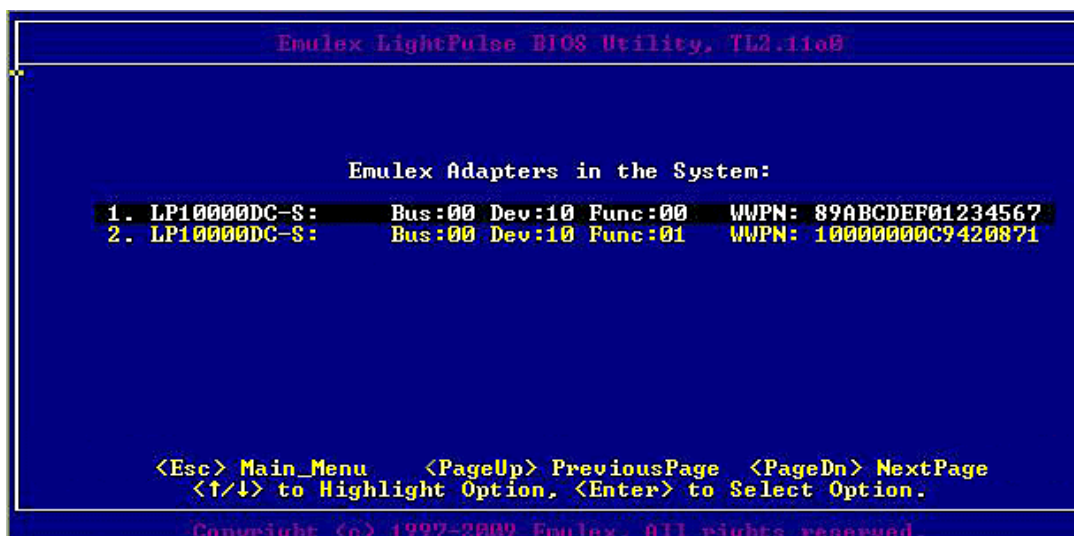

Figure 4-1 Adapter Listing Screen
1. Turn on the computer and press and hold down <Alt> or <Ctrl> and press <E> immediately (within five seconds) when the bootup message to start the BIOS utility is displayed. An adapter listing is displayed (Figure 4-1).